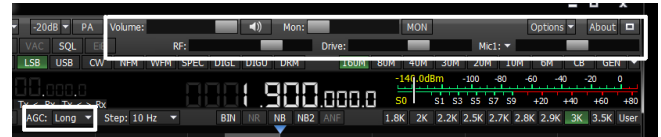

Figure 8.9 – Basic transceiver statuses power plants
- The following buttons are functions of transceiver parameters operating control: volume control - «Volume»; microphone level - «Mic»; output power level - «Drive»; monitoring - «Mon»; HF manual amplification – RF. AGC rate is regulated by a separate field «AGC».(view Figure 8.9)